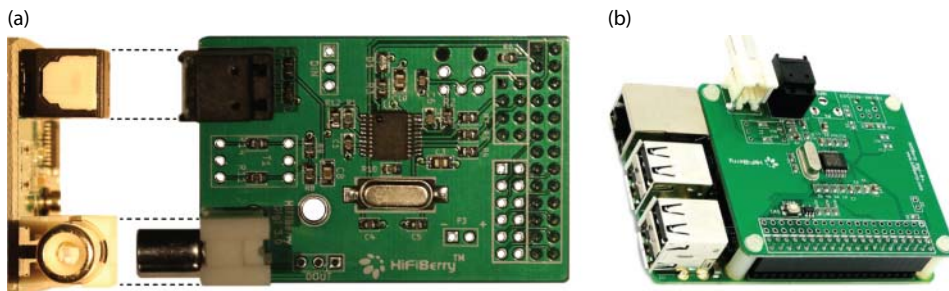

Figure 15-5: The HiFiBerry audio HAT: (a) for the RPiA/B, and (b) for the RPiA+/B+/2
- **RPi HATs:** HATs can be attached to the RPi that provide advanced audio capabilities. Figure 15-5 illustrates the popular HiFiBerry Digi+ board (\$35), which is available in different versions for older and newer RPi models. This board supports high-quality S/PDIF output at up to 192kHz, with 24-bit resolution.